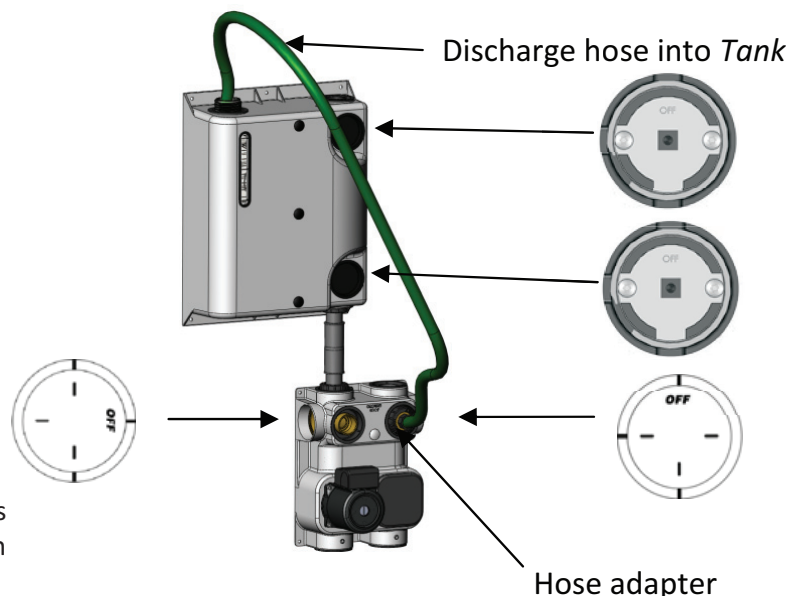

Figure 13: Connections and valve positions for flushing heat pump side of system with the circulator pump
- Rotate the upper valve on the Geo-Prime Tank to isolate the Tank from the ground loop (see Figure 13).
- Attach a discharge hose to the ride-side 3-way valve. This can be a short piece of garden hose, washing machine hose, or clear tubing with an appropriate adapter. (Figure 13).
- Rotate the left side 3-way valve on the flow center so that the flush port is OFF. This opens the valve to the Geo-Prime Tank (Figure 13).